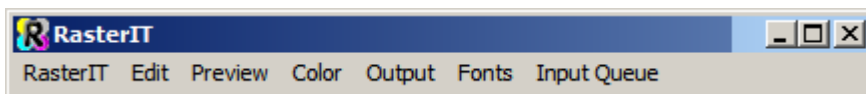

Figure 2.1 The Rasterize-it MultiRIP menus
- The next menu changes name to indicate which device it is controlling. This menu contains commands for controlling output and cutting the media being used on any printers connected to the computer. Because the displayed name can change, this documentation refers to it as the **Device** menu. (Figure 2.1, page 43, shows Preview in this position.)